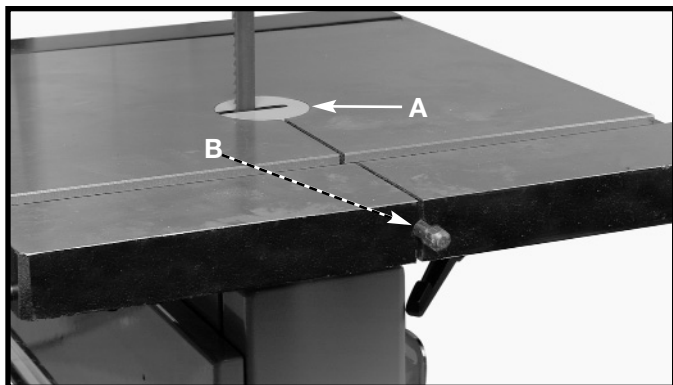
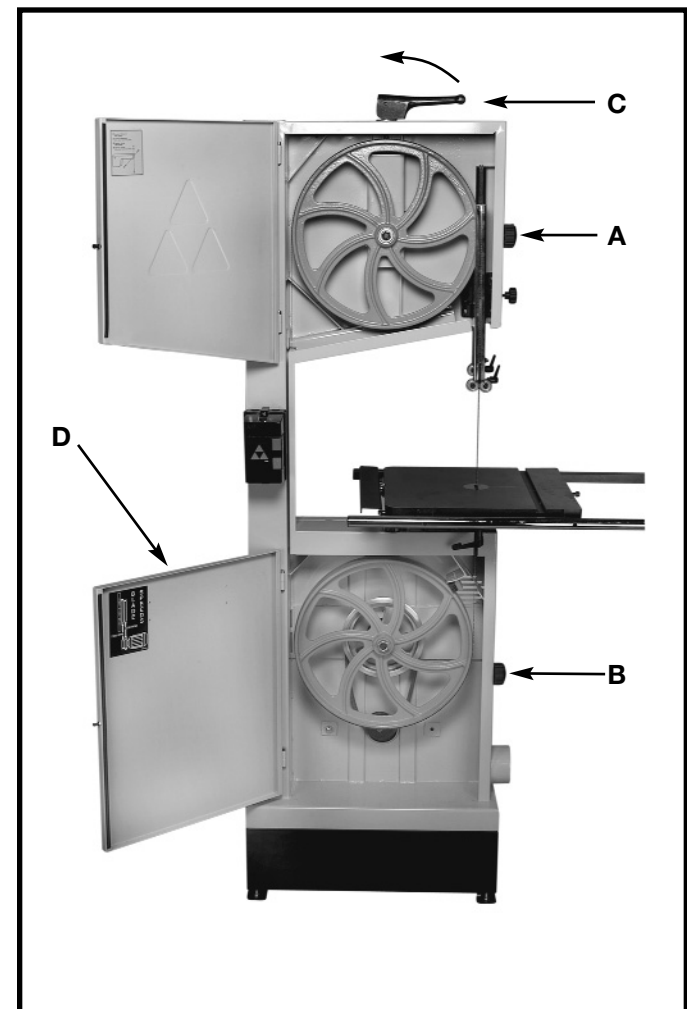

Fig. 27
Fig. 26
1. Open the bottom access door (See D, Fig. 26).
1. Turn the knobs (A and B) Fig. 26 clockwise to open both the upper and lower doors.
2. Move the Tension Lever (C) to the up position.
3. Remove the table insert (A) Fig. 27 and the table pin (B).